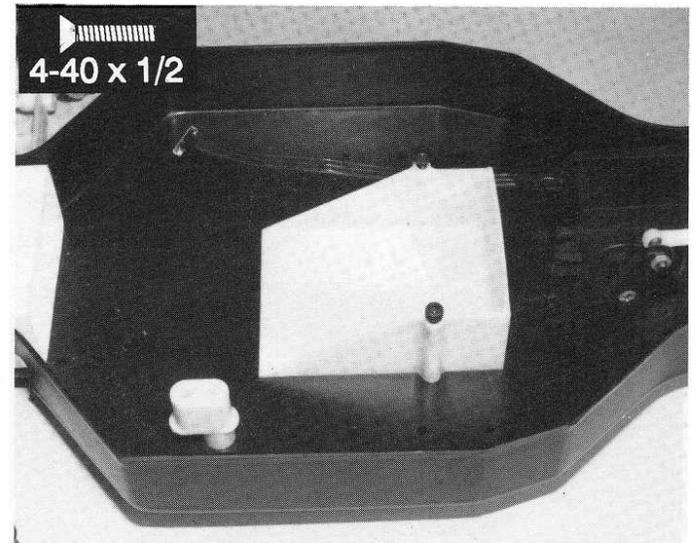

Fig. 137
□ **Fig. 137** Install the battery cup in the chassis with two flat head 4/40 x 1/2" screws where shown.